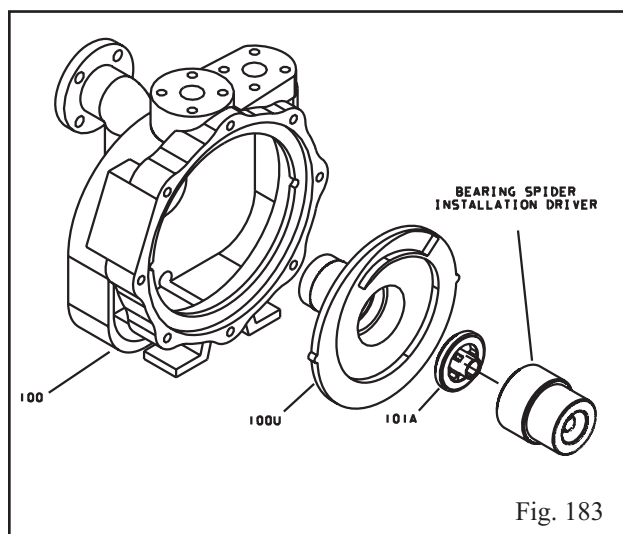

Fig. 183
14. Press spider (101A) into volute insert (100U) with spider tool (Fig. 183).
15. Press volute insert with spider into the casing (100) (Fig. 183).